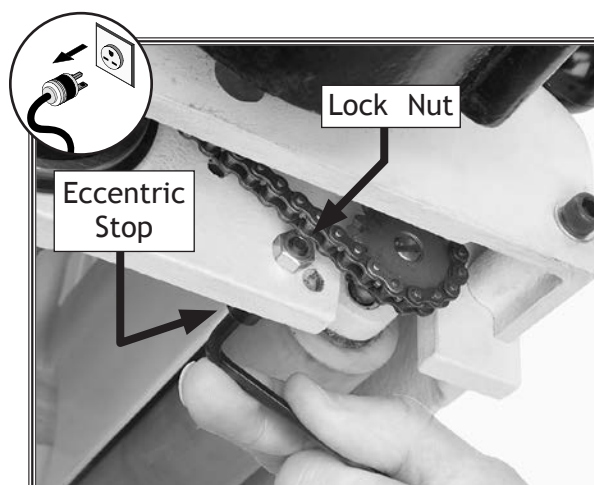

Figure 28. Adjusting feed roller height.
2. Loosen the lock nuts (see **Figure 28**) and rotate the eccentric stops with a 5mm hex wrench until the rollers are positioned as follows: